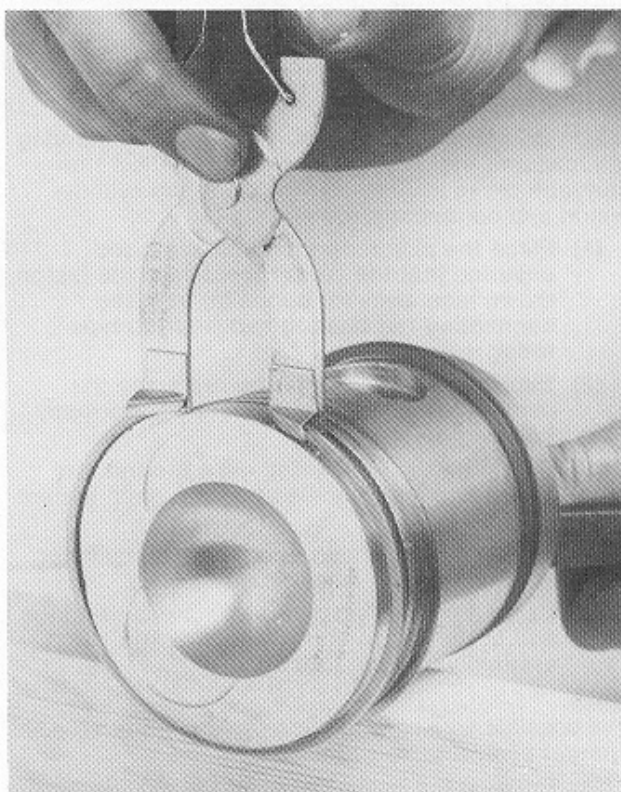

Figure 5.11 Piston Ring removal
- (1) Remove the rings from the piston as shown in Figure 5.11 noting the order of assembly and which ring face is uppermost.
- (2) Remove all the carbon deposit from the rings and ring grooves. The small holes in the scraper ring grooves should receive attention as their purpose is to return excess oil to the sump.
- (3) Insert the piston into the cylinder bore with the crown towards the bottom end of the bore and about 13 mm (0.5 in.) from the bottom edge. Insert the rings one at a time, pushing each ring hard up against the piston crown to ensure that it is level in the cylinder bore. Withdraw the piston sufficiently to allow the gap to be measured with a feeler gauge. The piston ring gap must not exceed 1.52 mm (0.060 in.). If necessary the rings must be renewed.
- (4) Assemble the rings on the piston in the correct order with the correct face uppermost.